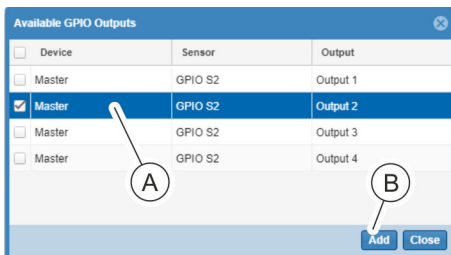

Fig. 124: "Available GPIO Outputs" window
9. ➔ Select the desired output on the GPIO module (Fig. 124/Ⓐ) and adopt the selection by pressing the "Save" button (Fig. 124/Ⓑ).